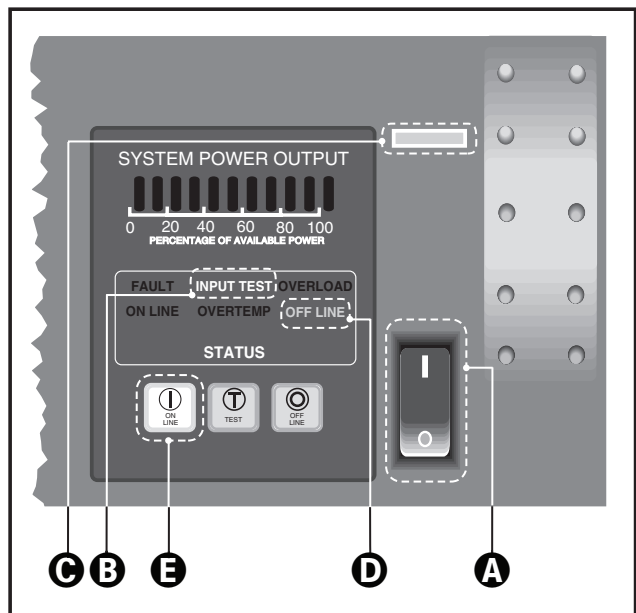

Figure 7–1 Front Panel Startup Controls and Indicators
2. Push the front panel AC power switch to the ON position (marked I on the switch.) This is labeled A in Figure 7–1.
3. The INPUT TEST indicator in the Status Display (B) flashes red for 5 to 10 seconds. This indicates the power-up self test is running. When the test has successfully completed, the INPUT TEST indicator goes dark.
4. The green power indicator (C in Figure 7–1) should then light up. The yellow OFF LINE status indicator (D in Figure 7–1) should also be lit. After subsequent power cycles, the DPC will return to its last state (ON LINE or OFF LINE) when the front panel AC power switch is turned ON again.
5. Press the ON LINE generator control key on the front panel (labeled E in Figure 7–1.) The green ON LINE indicator in the Status Display (labeled F in Figure 7–2) should now be lit.